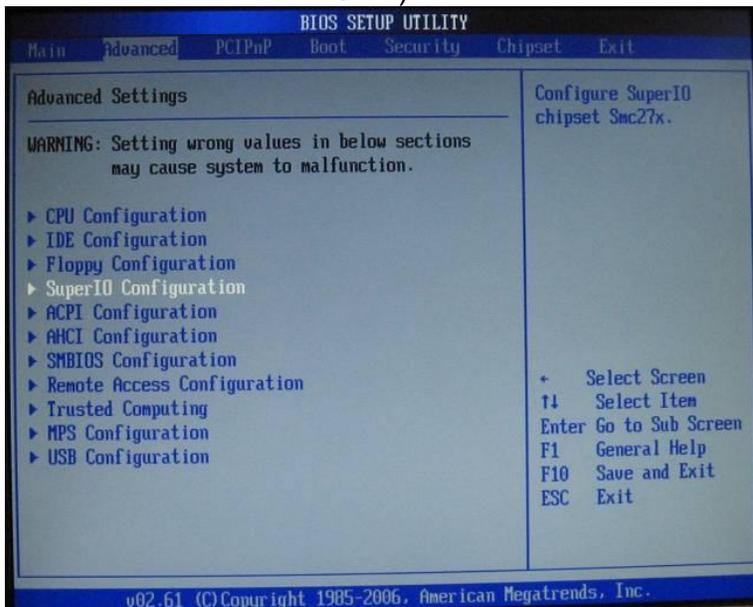

Figure 8-21 Super IO Configuration Page
11. On **Advanced Settings** screen Scroll down to **SuperIO Configuration**, Press **Enter**. (Figure 8-21).